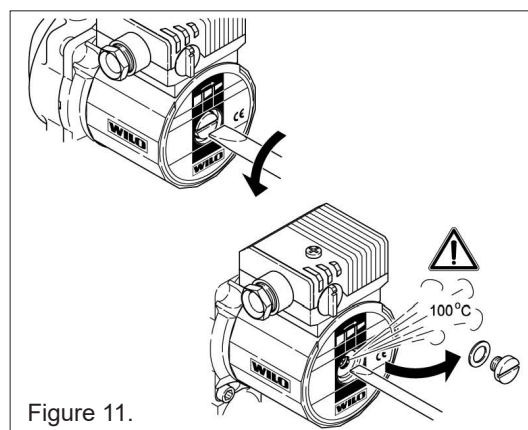

Figure 11.
3. Slowly open the air screw with a screwdriver (watch out for hot water). Remove the air screw entirely. See figure 11.